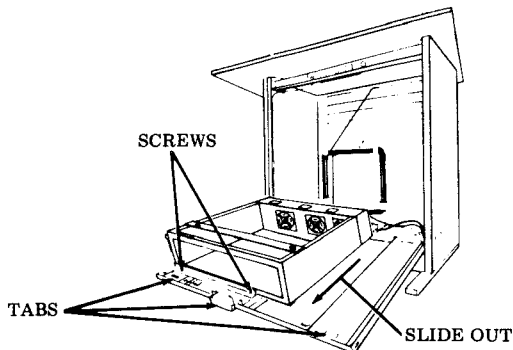

Fig. 57
Step 1 — Slide tabs inward and open panel carefully. Remove two screws and slide module out (Fig. 57).